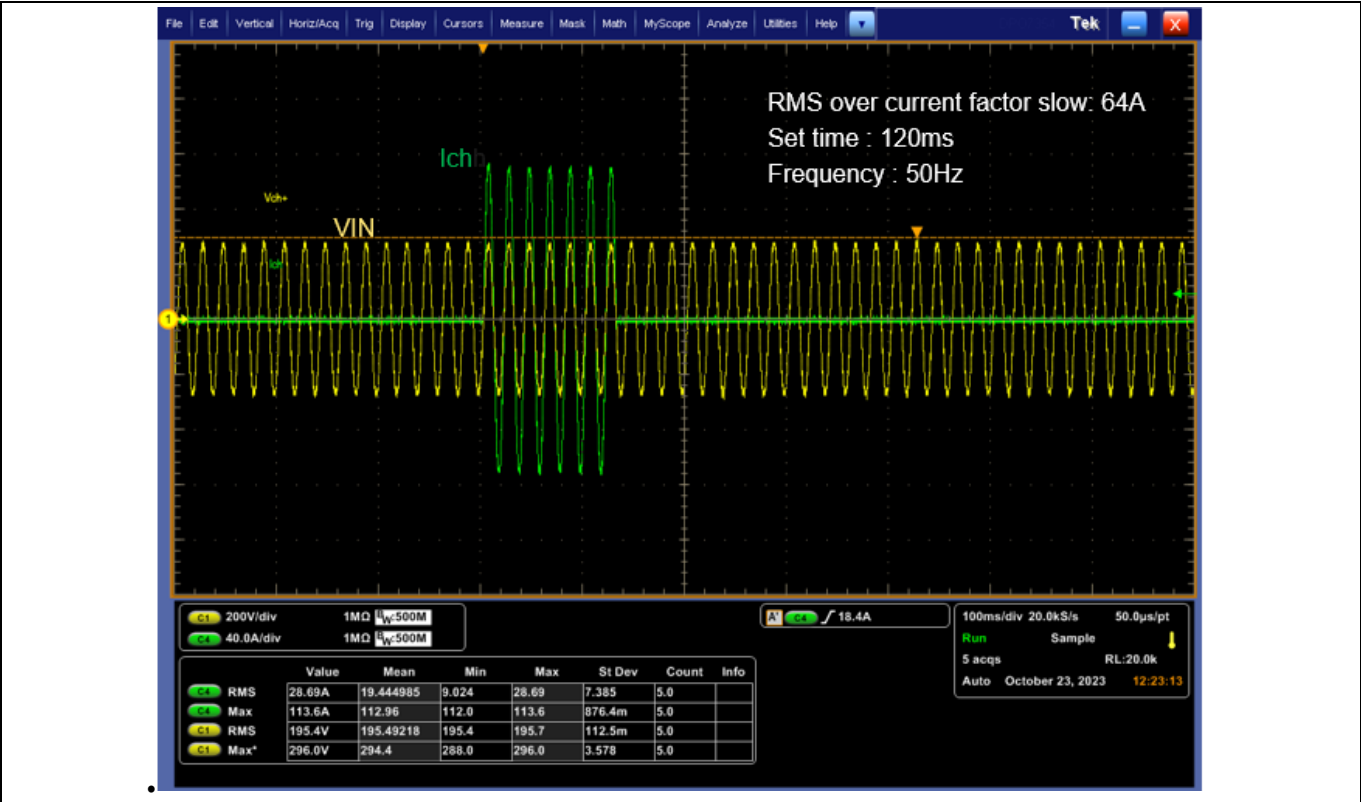

Figure 21 OVL low test
- OVL low: Latched error flag sets when I_{ch} is above the RMS overcurrent factor slow for set time. In AC system, the number of cycles to switch off the channel can be calculated as $(\text{set_time} * \text{frequency} + 0.5 \text{ or } 1)$, refer Figure 21 test.